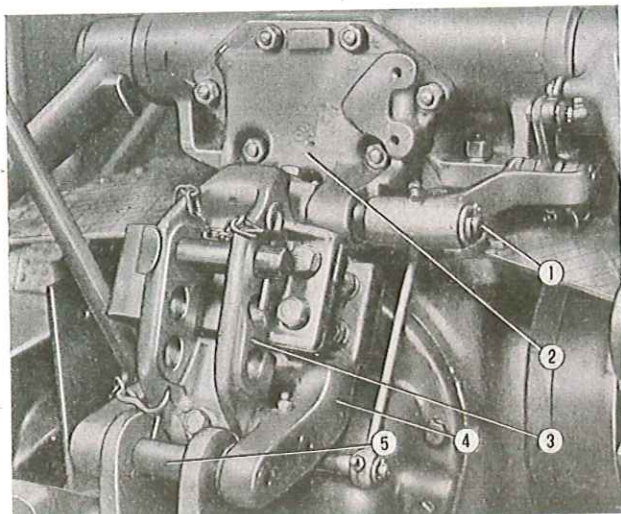

Fig. 77. - Hydraulic lift rear view.
Drain the oil from the lift (loosen the breather cap to facilitate the outflow of the oil) and detach the oil lines serving the hydraulic lift and its pump; pull the cotter pin and slide the lower shaft (5) out of the reaction strut (3, Fig. 77).
**NOTE** - The hydraulic lift can also be removed and more easily in two separate pieces by pulling out the shaft (1, Fig. 77), and so making it possible to free the whole reaction support with its spring from the lift casing.